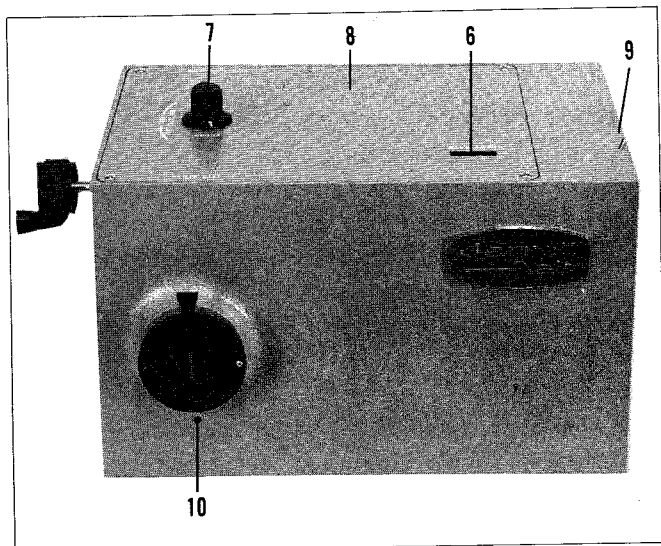

Figure 2
1-3-2 OVERALL VIEW 82-410 (Figure 2)
The monochromator is an Ebert optical mount. The light passes through the entrance slit (A) striking a 45° mirror (B) and is reflected to a large collimating mirror (C-1). From this mirror it is reflected to the grating (D) and dispersed back to the collimating mirror (C-2). The light beam, returning to focus, is reflected; by 45° mirror (E) out through exit slit (F). The entrance and exit slits (A,F) are in line on opposite sides of the instrument. Two gratings are mounted back-to-back at (D) and either may be selected for use by turning the external knob (7, Fig. 2).